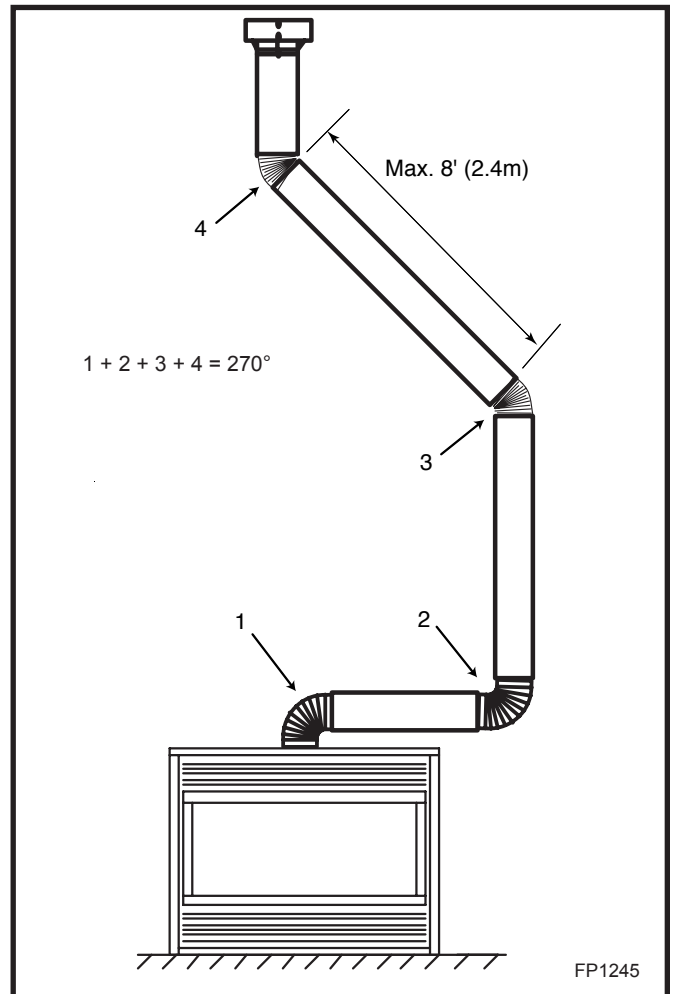

Fig. 27 Typical offset application.
- Two sets of 45° elbows offsets within these vertical installations. From 0 to a maximum of 8' (2.4 m) of vent pipe can be used between elbows. (Fig. 27)